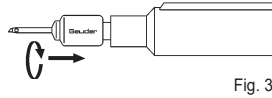

Fig. 3
- Slide the infusion sleeve over the ultrasonic tip and screw it onto the thread of the ultrasonic handpiece. Make sure not to damage the infusion sleeve (Fig. 3).